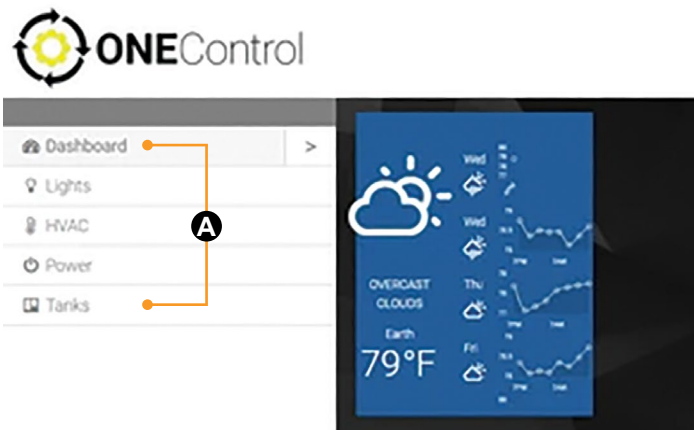

Fig.38
10. Scroll down to bring the dashboard into view (Fig.38). Become familiar with the controls (Fig.38A).